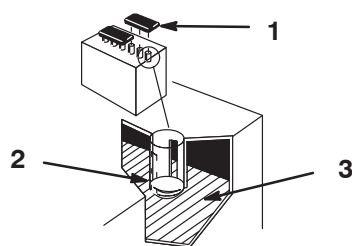

Figure 36
1. Open covers to see into the cells. The electrolyte must be up to the lower part of the tube (Fig. 36). Do not allow the electrolyte to get below the plates. (Fig. 36).
2. Lift off the filler caps (Fig. 36).
3. Slowly pour distilled water into each battery cell until the level is up to the lower part of the tube (Fig. 36).